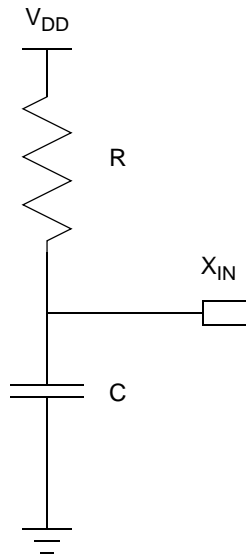

Figure 38. Connecting the On-Chip Oscillator to an External RC Network
Figure 38 illustrates a recommended configuration for connection with an external resistor-capacitor (RC) network.